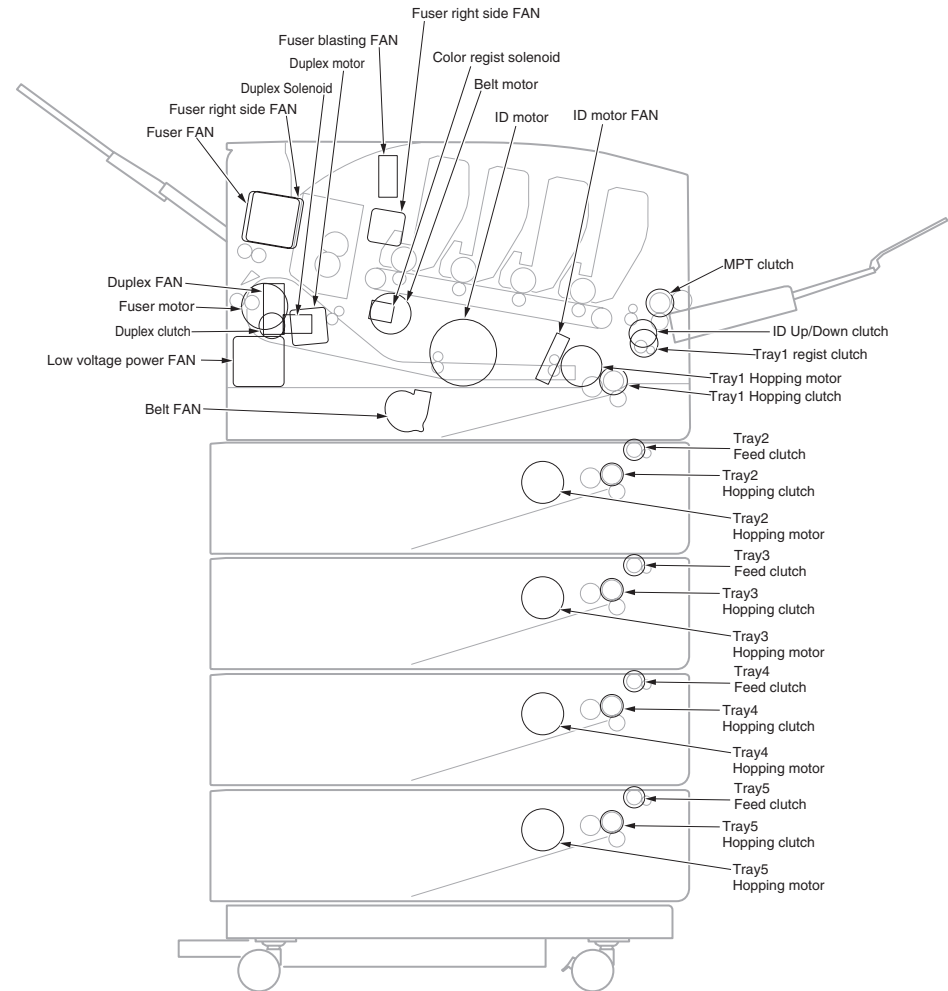

Figure A-2-2
3. Pressing the [ENTER] button starts the test. The unit name starts flashing and the corresponding unit is activated for 10 seconds. (Refer to Figure A-2-2.)